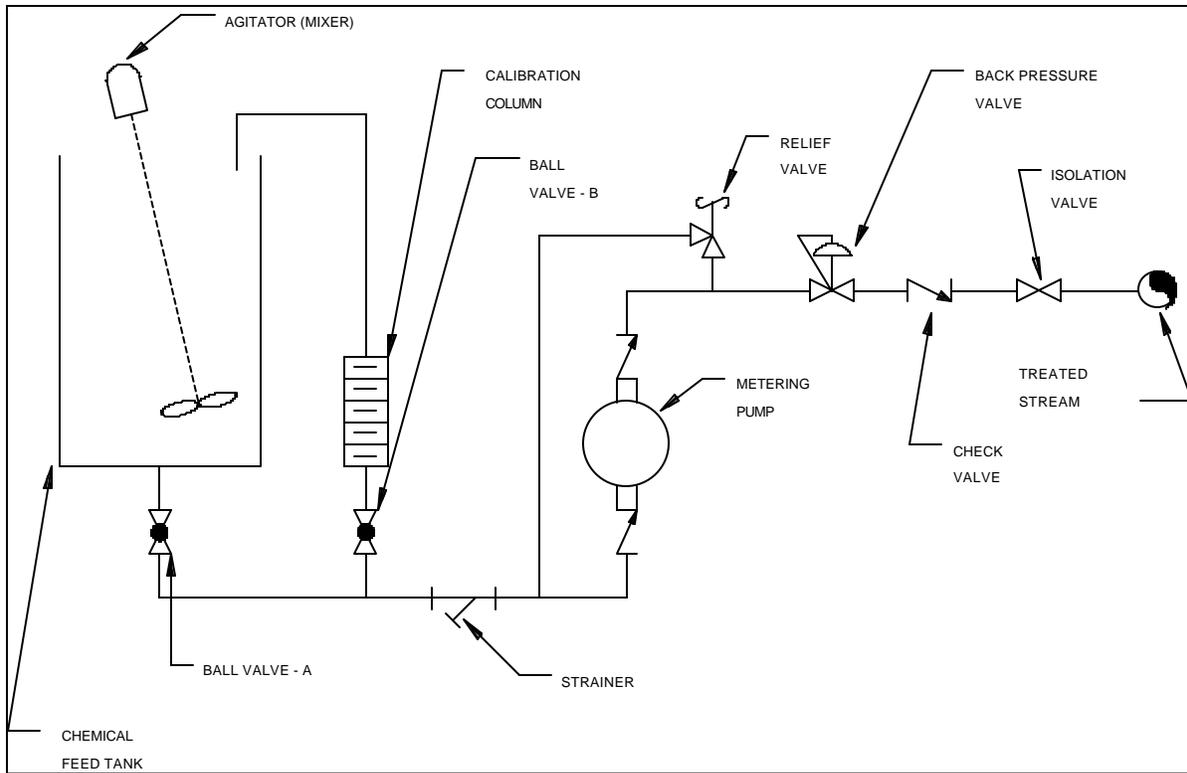

Figure 13-1. Typical test tube calibration column installation
- (1) Inspect packing gland and tighten if necessary.
- (2) Check for correct positioning and operation.
(3) Check for leaking seals.
(4) Adjust operator linkages and limit switches on control valves.
d. Chemical metering pump calibration. A common method of verifying the pumping rate of a metering pump is by means of a test tube calibration column. A typical test tube calibration column installation is shown on Figure 13-1. The pumping rate at a given setting is determined as follows.
(1) With the metering pump operating normally and the storage tank level higher than top of calibration column, open Valve B and allow the calibration column to fill.
(2) When the liquid level reaches the zero division mark, close Valve A and start timer. **Do not fill above the zero division mark.** (Note: Any division mark may be used as a starting point; however, filling to the zero mark allows a longer time interval which increases accuracy.)
(3) After a timed interval of not less than 30 seconds, note the reading on the calibration column and the time interval, and open Valve A and close Valve B.
(4) Determine pumping rate by dividing amount pumped by the time interval. (Note: Follow directions on calibration column to determine flow rate units.)
(5) Check the measured flow rate against the setting on the pump. If the actual flow rate is significantly different than the set flow rate, repeat Items 1 through 4 to confirm difference before taking action.